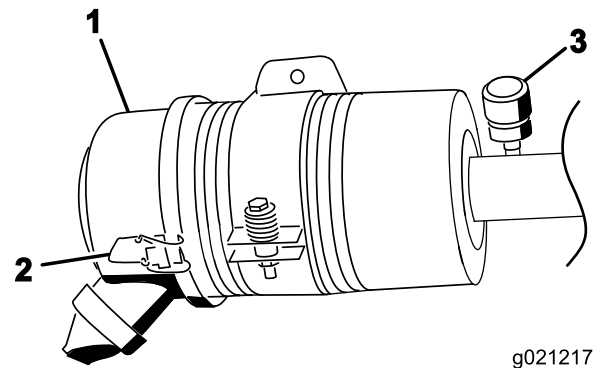

Figure 41
Service the air cleaner filter only when the service indicator (Figure 41) requires it. Changing the air filter before it is necessary only increases the chance of dirt entering the engine when the filter is removed.
1. Release the latches securing the air cleaner cover to the air cleaner body (Figure 41).